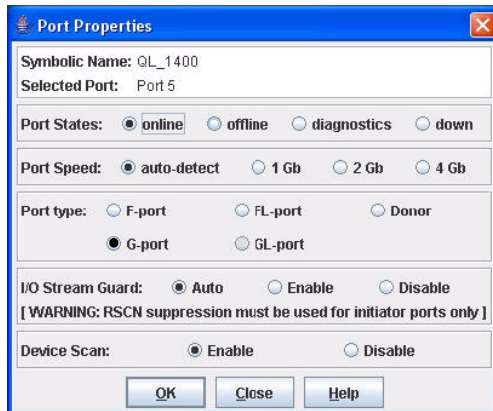

Figure 7-39 Port Properties window
9. From the Port Properties dialog box (Figure 7-39), verify the following settings are true: